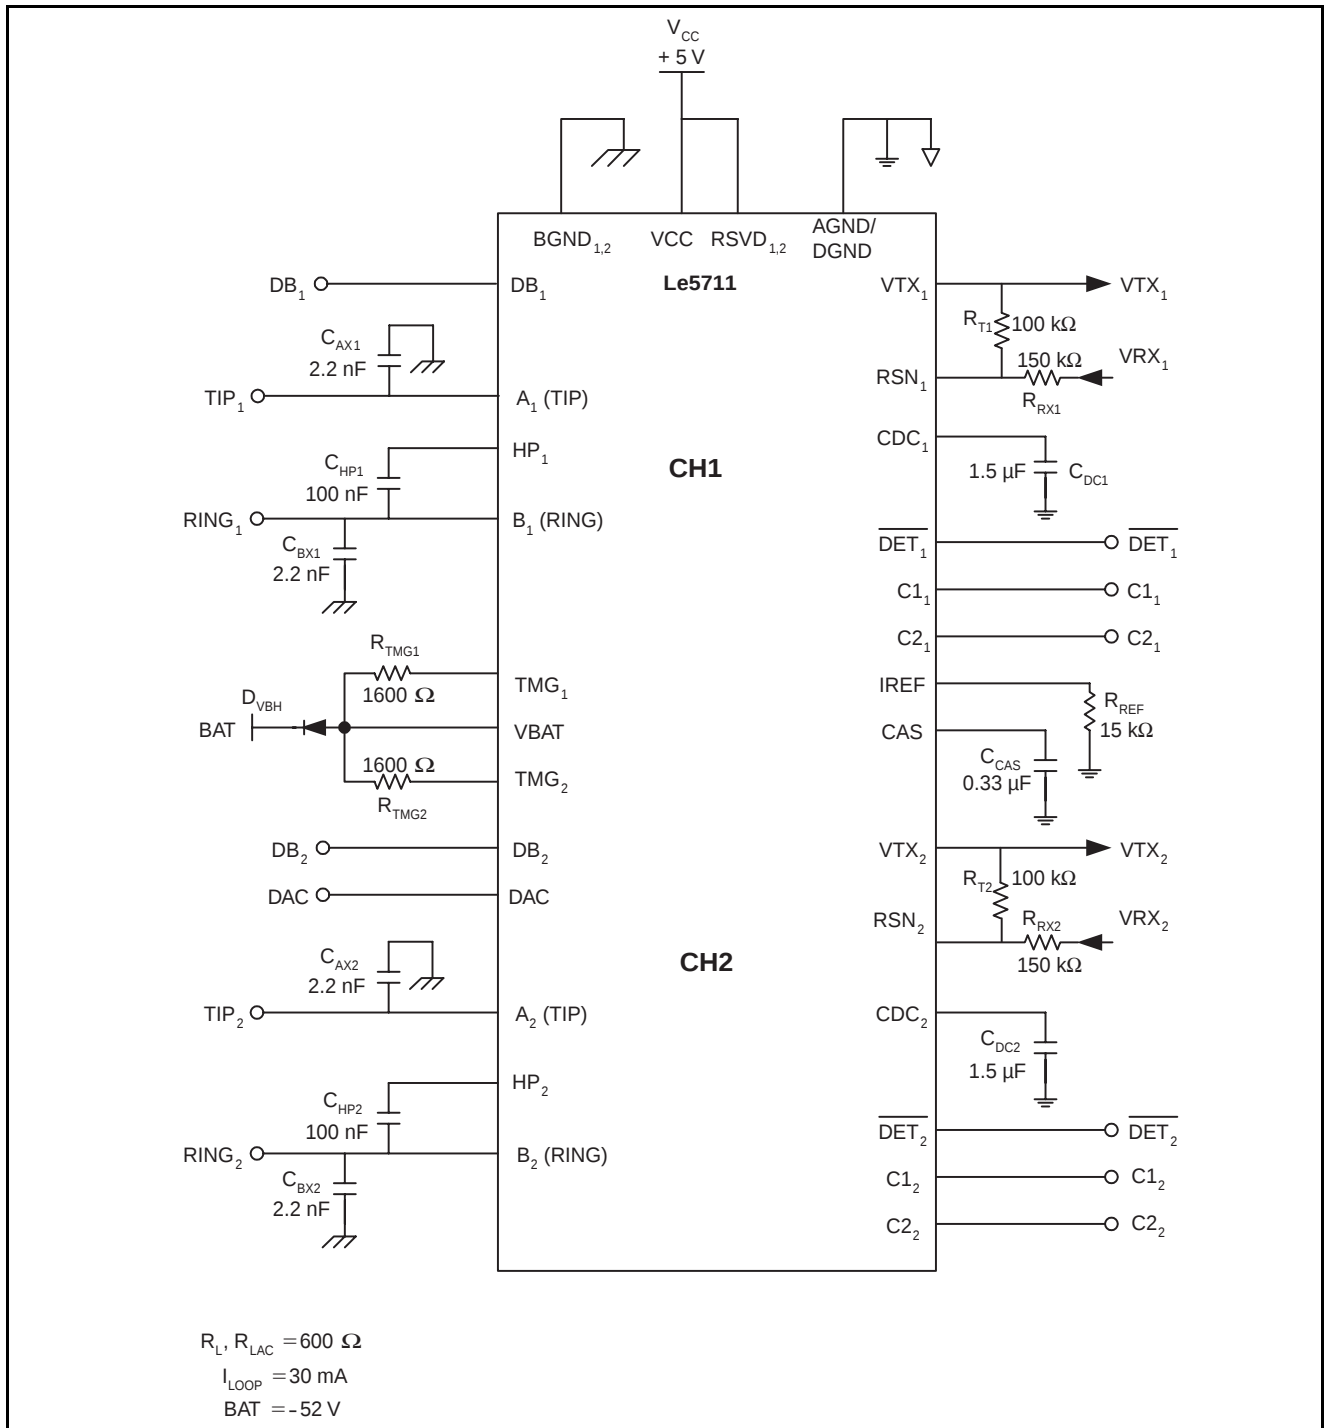

Figure 8 - Le5711 Test Circuit
1. Unless otherwise noted, the test conditions are set up by the Le5711 device test circuit as illustrated in Figure 8 on page 20.